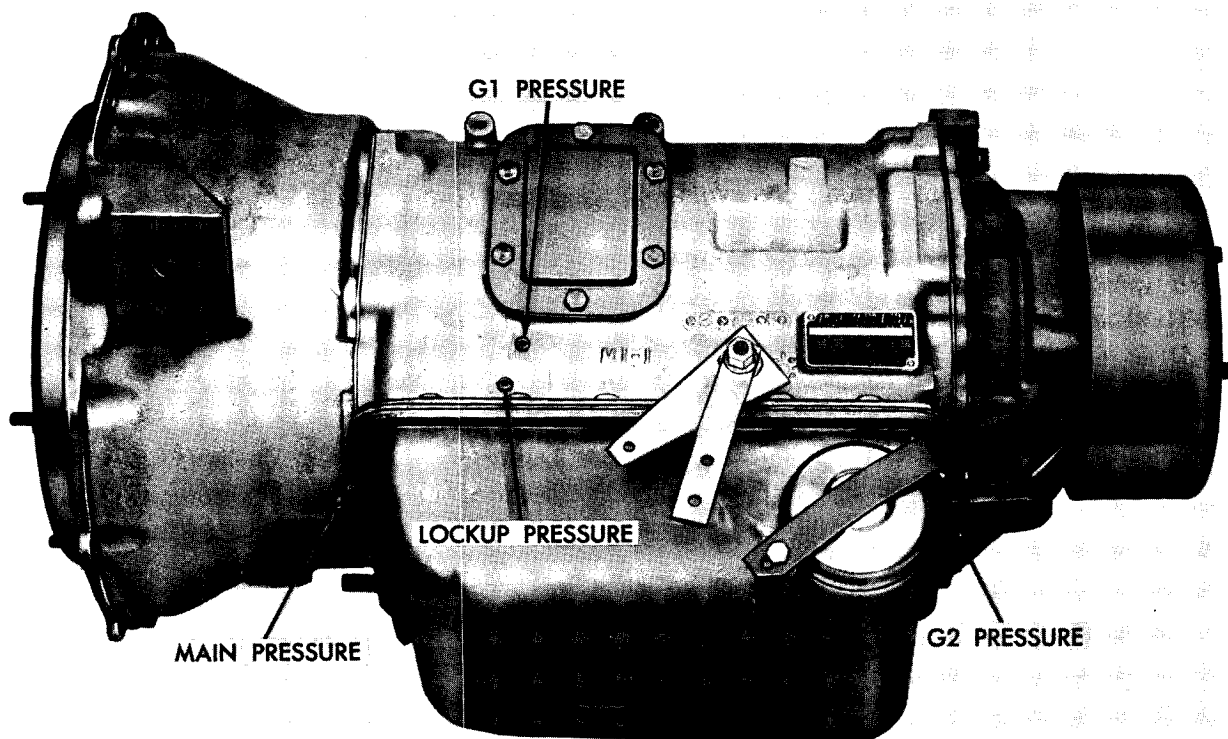

Fig. XVI-1 Oil pressure check points
(1) There are four pressure check points on the transmission left side (fig. XVI-1). Remove the 1/8-inch pipe plugs and attach gages as follows: